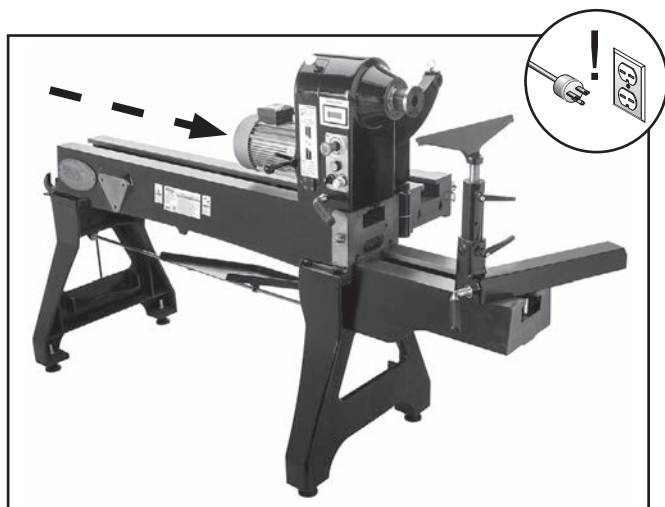

Figure 51. Typical outboard turning operation. (Shown here with Model T27484 Bed Extension and Tool Rest Riser Bushing.)
4. Loosen headstock, then move it all the way to tail end of lathe bed, as shown in **Figure 51**.